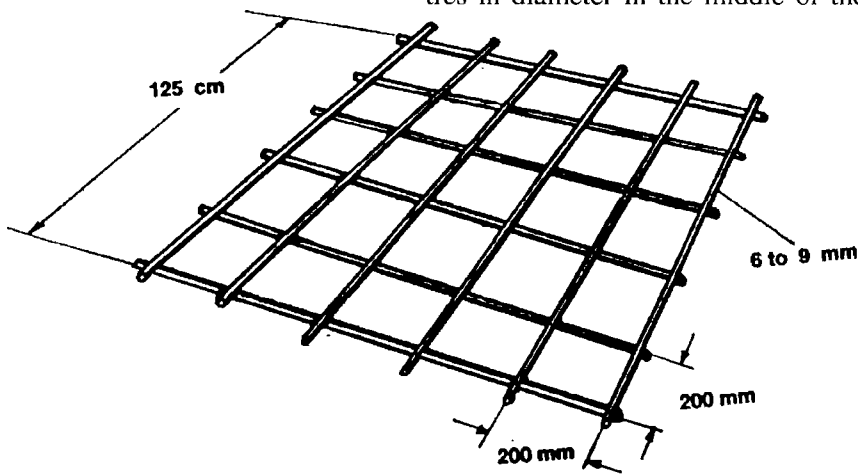

Figure 9. Reinforcement grid
- Make or cut a wire mesh or grid to lie inside the pit. The wires can be 6 to 9 millimetres thick and about 200 millimetres apart (see Figure 9). Cut a hole about 250 millimetres in diameter in the middle of the grid.